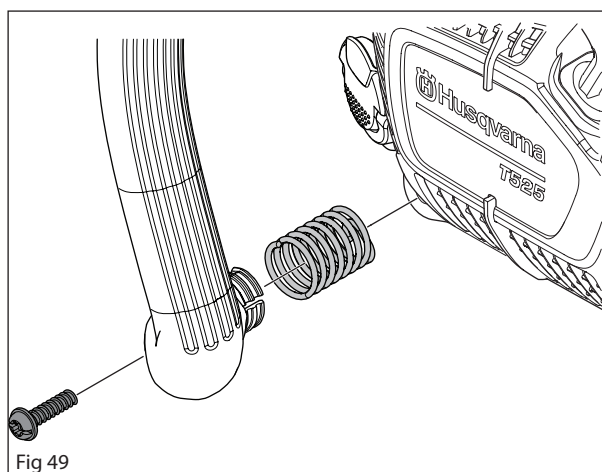

Fig 49
6. Remove the screw and the front handle. Remove the antivibration element. See Figure 49.